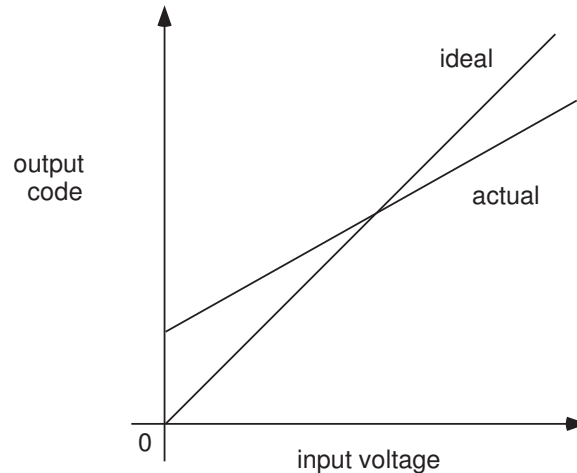

Figure 3: Ideal and Actual Transfer Functions of A/D Converter
4. In part because A/D converters are constructed from electronic components that may not satisfy specifications precisely, and whose behavior may depend on factors such as ambient temperature, the mapping from analog input voltage to binary output code may not be accurate. Consider the “ideal transfer function” of an ADC depicted in Figure 3. This figure depicts the relation between a voltage input to the ADC and the binary code output from the ADC and expressed as an equivalent decimal number. In theory, with infinite precision this function will be a straight line with slope one that intersects the origin. Of course the best we can do with finite wordlength is to make a staircase approximation to this straight line. In practice, the reasons described above imply that this staircase approximation may end up being based around a straight line whose slope differs from one, and that has a nonzero offset from the origin. See Freescale Application Note AN2989 for further discussion.